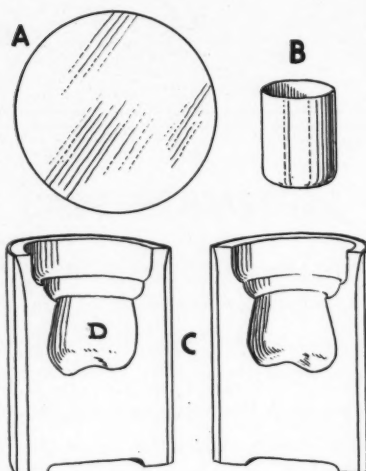

Fig. 1—Tin disc (A) formed into shell (B) by means of shell machine. Shell (B) then swaged into split die (C) to form tin crown. D is the rubber tooth form.
1. A shell is formed from a round piece of tin, one-half to 1 inch in diameter, according to the size of shell to be prepared (Fig. 1).
2. Rubber tooth mold is used to pour a split die in Dee's low-fusing master model metal (Fig. 1).
3. The tin shell is swaged into place in the metal die by the use of an instrument and soft unvulcanized rubber. Care should be taken at this point to see that the anatomy on the occlusal surface of the tin crown is faithfully reproduced by proper adaptation of the tin form to the die. This step should be undertaken slowly in order that holes will not be punched through the tin shell during adaptation. The crown form is then eliminated by opening the split die. Numerous crown forms may be made from a single die (Fig. 1).